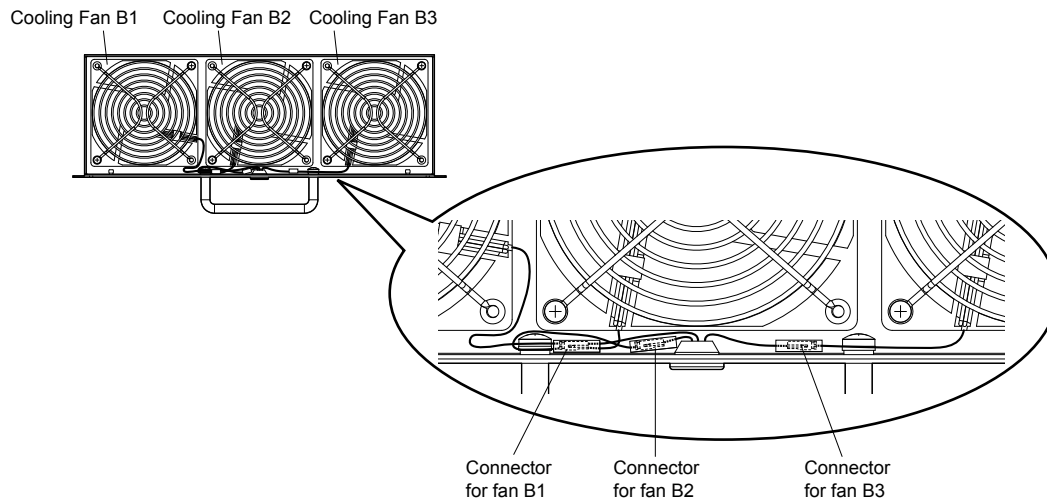

Figure 2.79 Cooling Fan Wiring: 4A0361
2. Place the fan connector covered by the tube as shown in Figure 2.79.